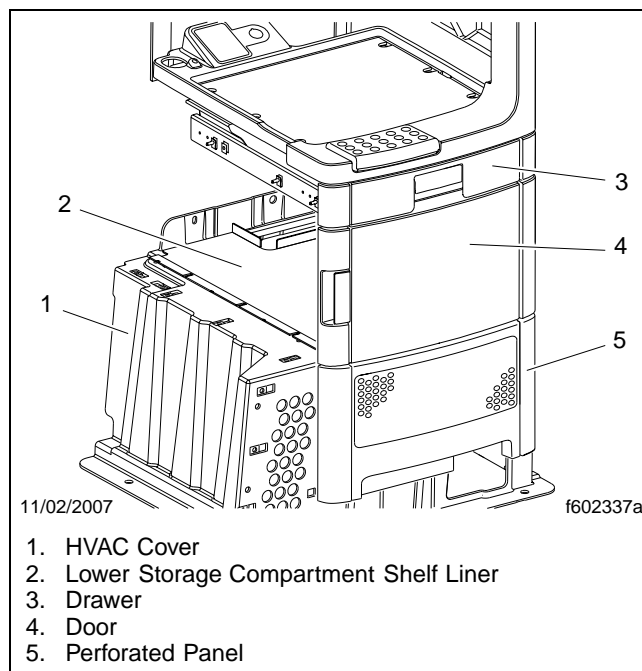

Fig. 1, Sleeper Cabinet Stack
3. Open the lower storage compartment door on the cabinet stack behind the driver's seat, and remove the shelf liner. See **Fig. 1**.
5. Remove the drawer from the cabinet stack. See **Fig. 1**.